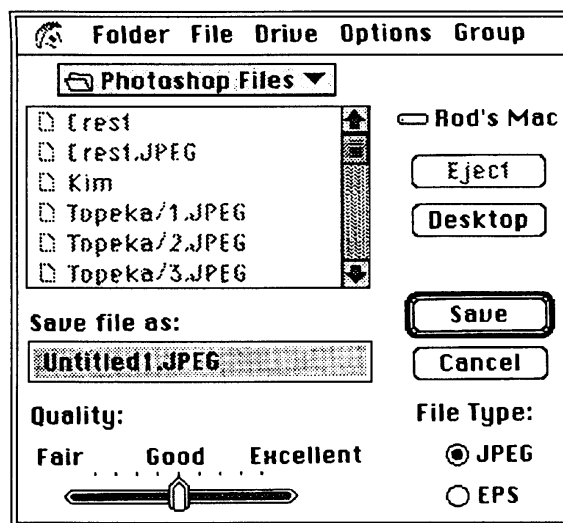

Figure 11-37.—Adobe Photoshop JPEG compress window.
14. In the “Adobe JPEG Compress” window (fig. 11-37), move the sliding image quality control bar to the center of the scale directly below “Good.” Make sure “File Type” is “JPEG.” Select the folder you created earlier to save your files; then enter a name for your file. The file name must end in “.JPEG.” Press “Save.”